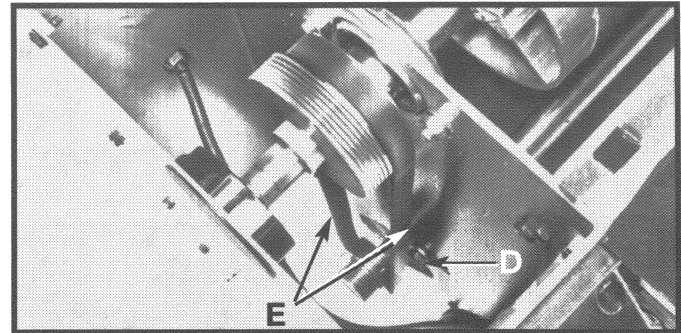

Fig. 28
5. After the belt (E) Fig. 28 has been repositioned or replaced on the pulleys, apply downward pressure on the motor and tighten the two hex head bolts (D) (loosened in STEP 4).
6. Use light finger pressure on the belt (E) Fig. 28 midway between pulleys to check for proper tension. A deflection of approximately 3/16" is correct.